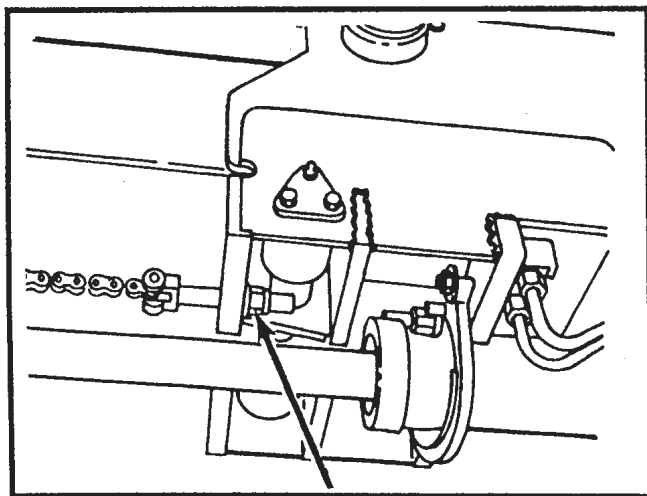

Figure 10-9. Extend Chain Anchor
6. If adjustment is required, tighten or loosen the chain by adjusting the extend chain anchors, located on the bottom of the outer boom section, in or out as required. Refer to Figure 10-9. The retract chain is automatically adjusted when the extend chains are correctly adjusted.